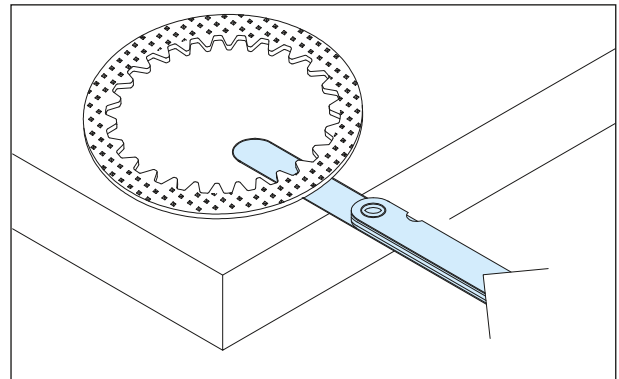

Fig. 3.104
- Using special tool check the wear and distortion of plate clutch driven (4 nos.) as shown in figure. (Fig. 3.104)